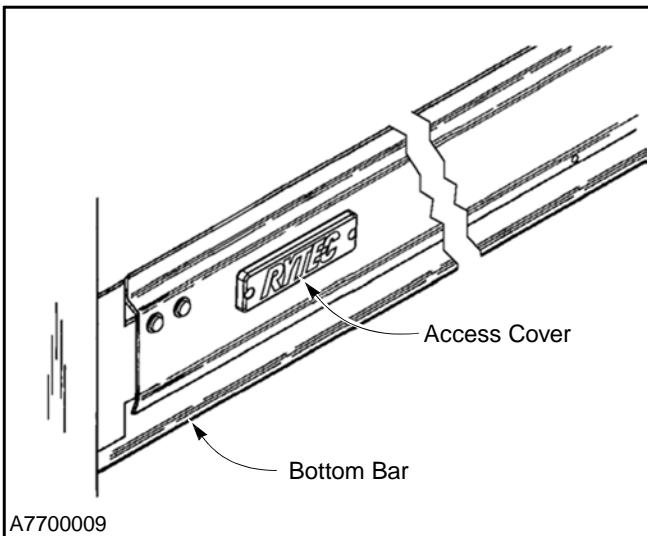

Figure 45
1. The kill switch is mounted in the bottom bar assembly, on the same side as the door motor. To access the switch, first remove the access cover. (See Figure 45.)